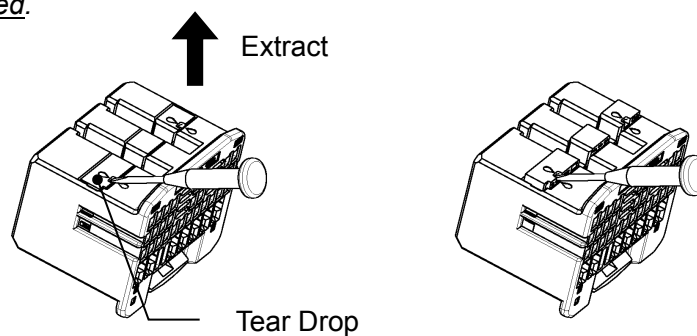

Fig.13
(1) Insert the jig, 1mm blade screw driver, into the window of the retainer pointed by the tear drop mark. See Fig.13.
(2) Draw out the retainer, about 0.95mm (1ROW-TYPE:1.45mm), to pre-assembled condition.